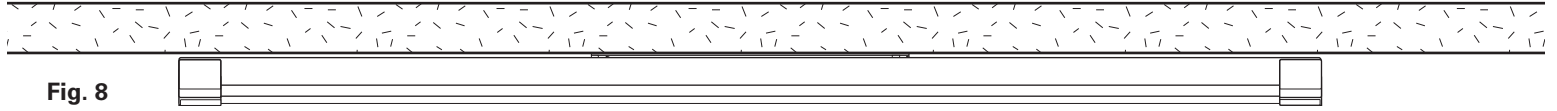

Fig. 8
6. Your installation is now complete (Fig. 8). Restore the power.